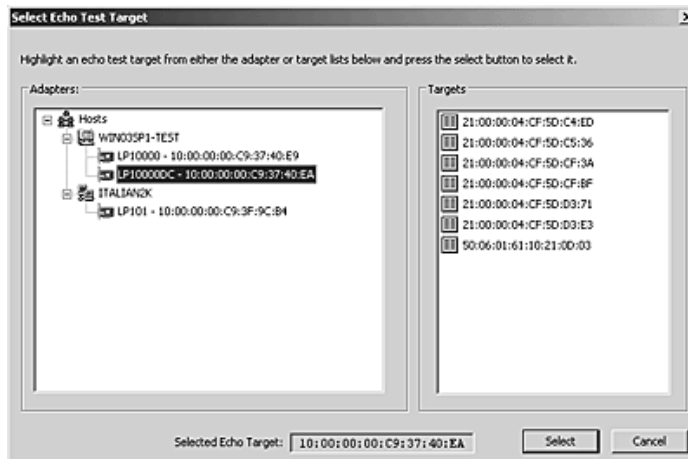

Figure 59: Select Echo Test Target window
2. Select the **Diagnostics** tab. Click **Advanced Diagnostics Test** (see Figure 59 on page 104).